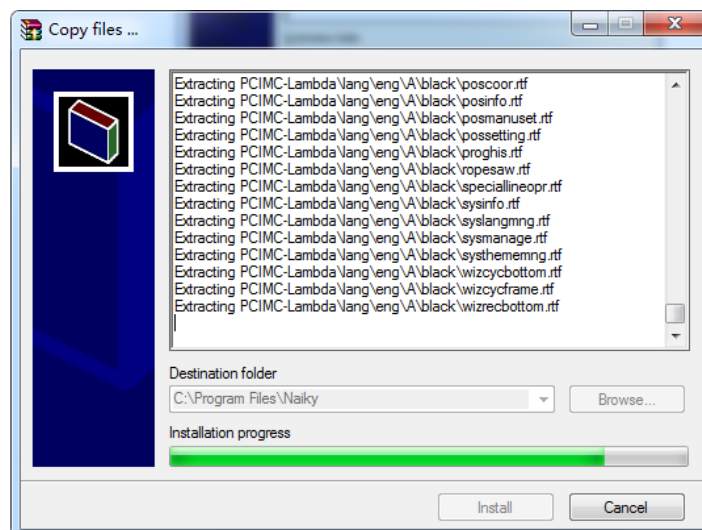

Fig. 2-3 Installing
- Installation begins. The NcStudio system will be installed in directory C:\Program Files\Naiky by default. Progressing picture is as shown in Fig. 2-3 Installing Fig. 2-3.